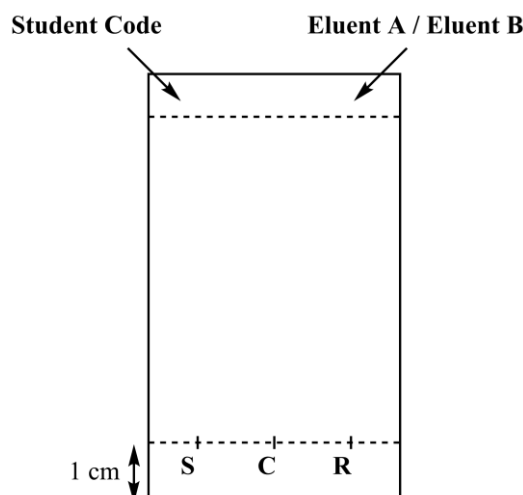

Figure 3. TLC plate preparation
3. **Prepare your TLC plate.** Use a pencil to **draw** carefully the start line (1 cm above the bottom of the plate) and **mark** the positions in order to spot the 3 samples. **Label** them S (Starting material), C (Crude product) and R (Recrystallized product), as described in Figure 3. On the top left of the plate, **write** your **Student Code**. On the top right of the plate, **write** the eluent you use (first **Eluent A**, then **Eluent B**). **Spot** the three samples on the plate, using capillary spotters.